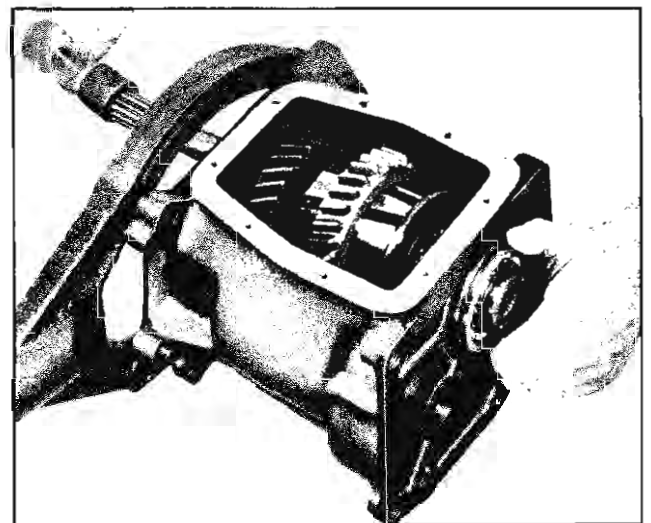

Fig. 7-19 Driving out Clutch Gear and Bearing
5. Drive out clutch gear bearing and clutch gear by driving on mainshaft (Fig. 7-19). Remove clutch gear and bearing.